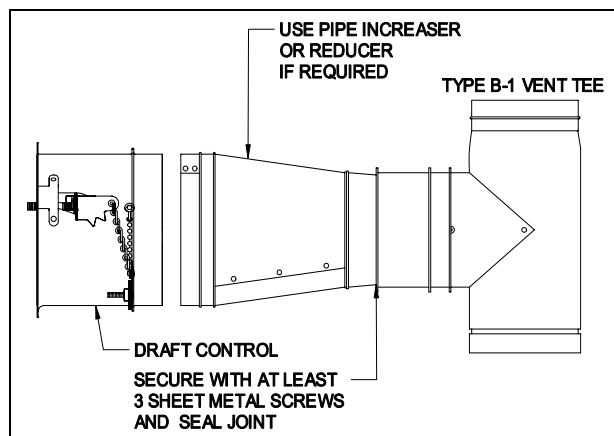

Figure 5
1. Install a vent pipe reducer or increaser into the inner pipe and fasten using sheet metal screws. (See Figure 5)
2. Use a spirit level and level accurately. (See Figure 5) Secure the control in the collar by tightening the clamping screws. If a tee is used or a collar is supplied locally, the control may be held in place by sheet metal screws.